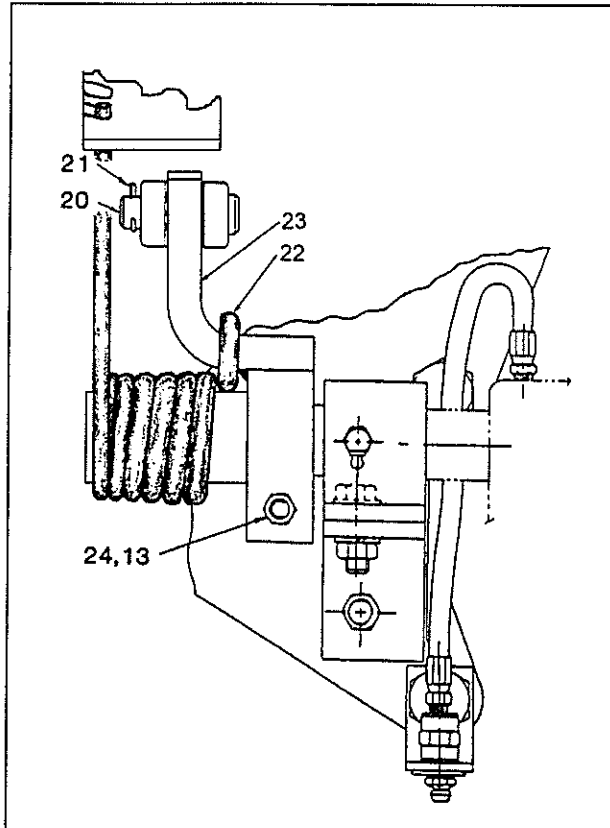

FIGURE 3: CLUTCH LEVER INSTALLATION.
Servo installation (Fig. 3, 4, 5, 6)
10. Install spring (22) on lever (23) as illustrated on figure 3.
11. Loosely mount M10-1.5 x 50 mm bolt (35) and nut (29) on support.
13. Use clevis pin (20) to assemble chromated yoke to lever. Secure pin with a new cotter pin (21).
14. Secure lever to clutch release shaft using a 3/8"-16 x 2 1/4" bolt (24) and self-locking nut (13).